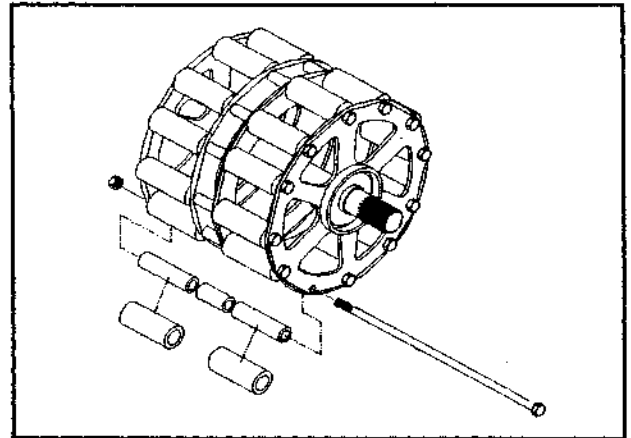

FIG 54
1) Assemble the drive sprocket as shown in FIG 54. Be sure to insert drive tooth bolts from the splined end of the shaft. Reversing the bolts could cause an interference with the back side of the chain case.